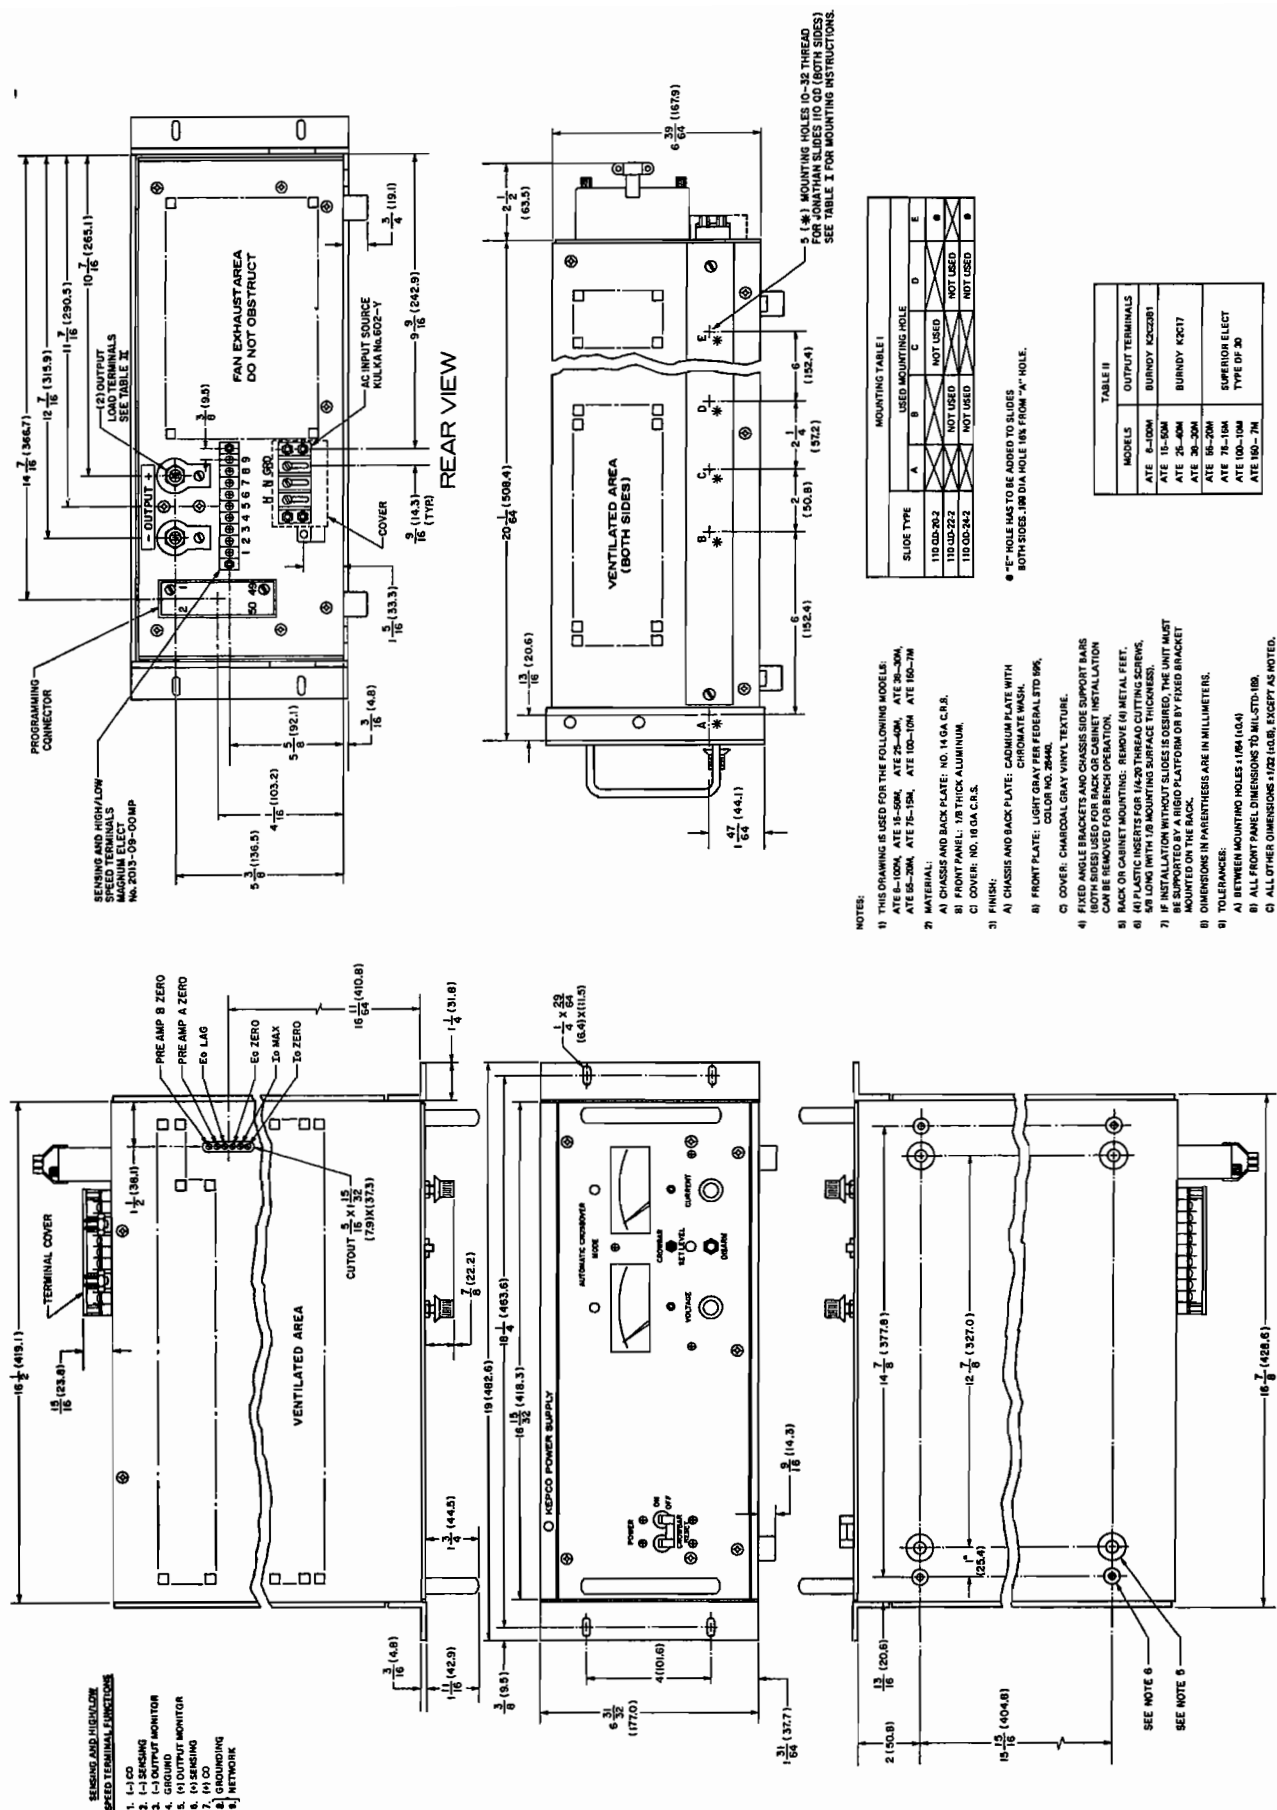

FIG. 1-2 MECHANICAL OUTLINE DRAWING
- a) Refer to the "Mechanical Outline Drawing", FIG. 1-2 .
2-10 INSTALLATION (Refer to FIG. 1-2 "Mechanical Outline Drawing")